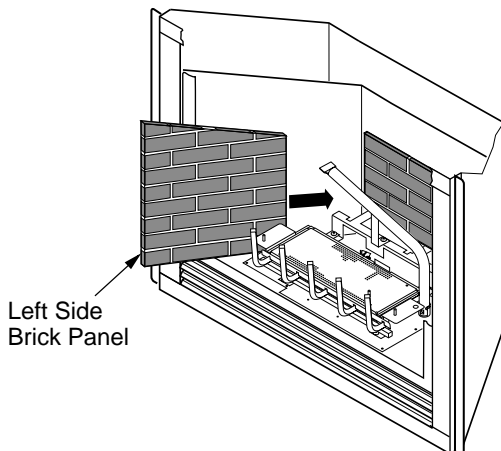

Figure 44 - Installing Left Side and Top Brick Panels
6. Install left side brick panel by sliding it between the grate and the side of the firebox (see Figure 44).